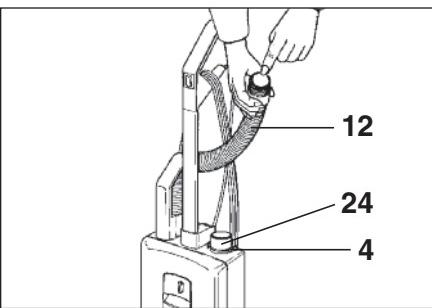

Figure 14
Clogs in the Attachment Hose - *Figure 14*
Remove attachment hose (12) from vacuum cleaner (see figure 14) and remove front cover (7). Clean out connecting tube (24) and/or entrance to bag (40).